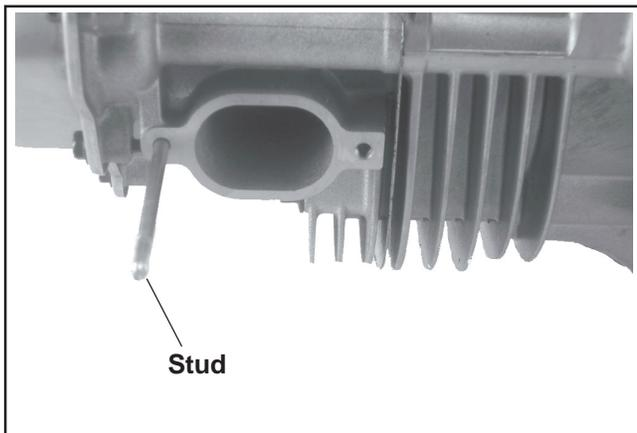

**Figure 10-51. Installing Spark Plug.**
3. Install the spark plug and torque it to **24-30 N·m (18-22 ft. lb.)**. See Figure 10-51.